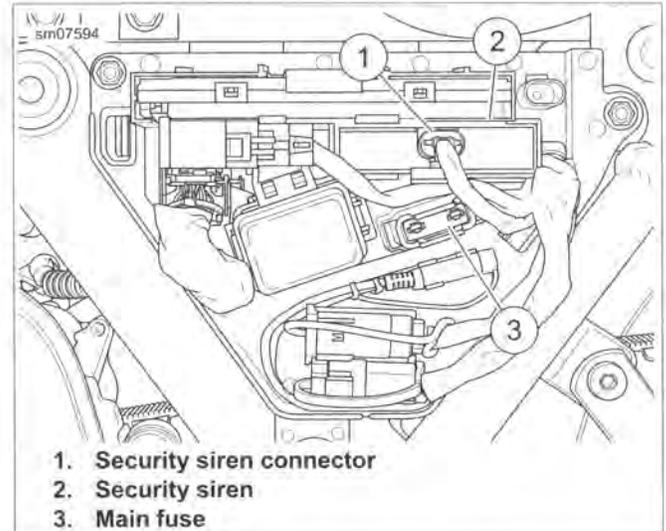

Figure 7-122. Security Siren
4. See Figure 7-122. Remove main fuse (3).
1. See Figure 7-122. Install security siren (2).
2. Connect security siren connector [142] (1).
3. Install main fuse (3) into holder.